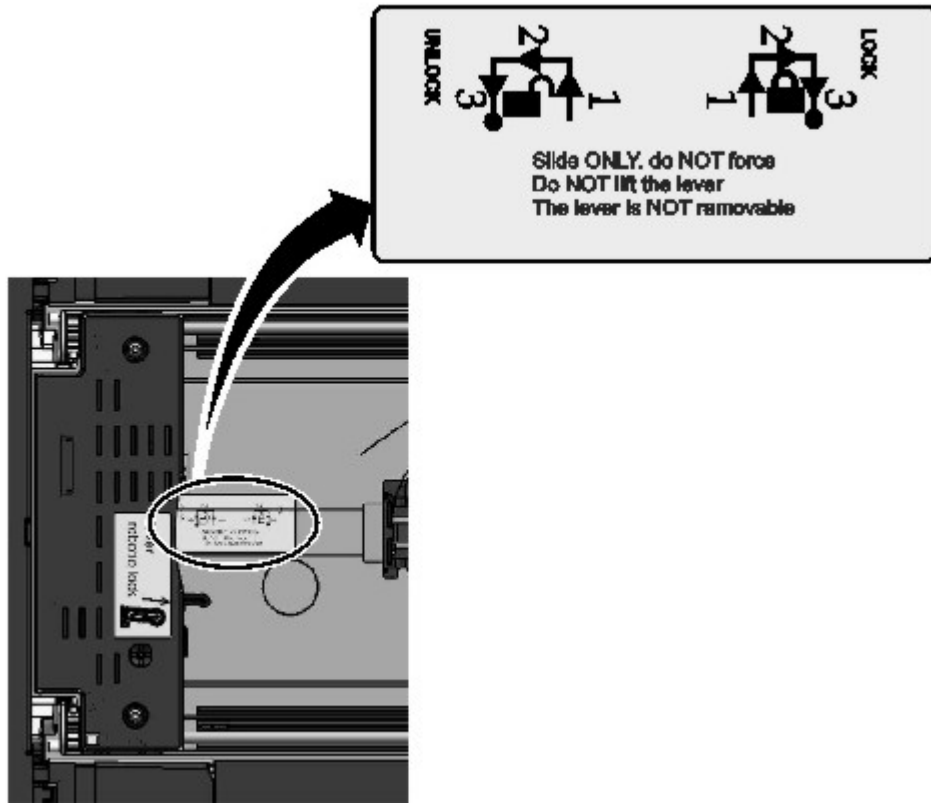

Figure 72. Unlocking the robot
10. Unlock the lever and set aside the accessor. See Figure 72 on page 122.